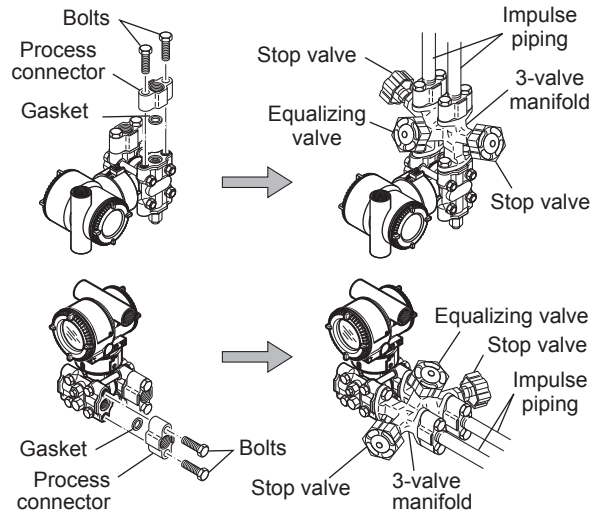

Figure 5.3 3-Valve Manifold (Direct-Mounting Type)
■ **Direct-Mounting Type 3-Valve Manifold (Figure 5.3)**